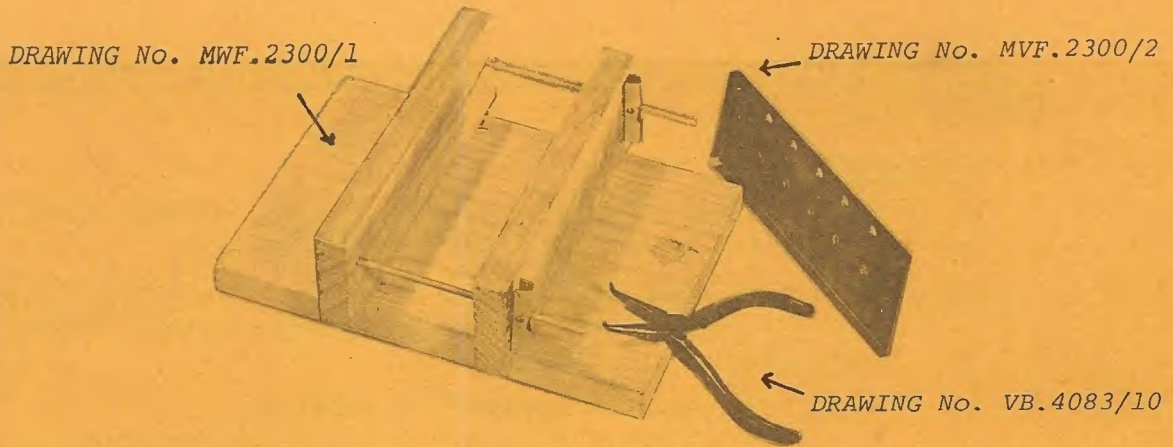

FIG. 2. SPECIAL TOOLS AND AIDS.
- 2.1 For ease and efficient installation, it is essential that the detailed steps listed be strictly adhered to and that the special tools and aids be used. Fig. 2 shows the special tools etc. and their associated Drawing numbers.
- (iii) Use of offset tip pliers (Drawing No. VB.4803/10) for stripping and terminating the conductors. Fig. 2 shows these pliers.